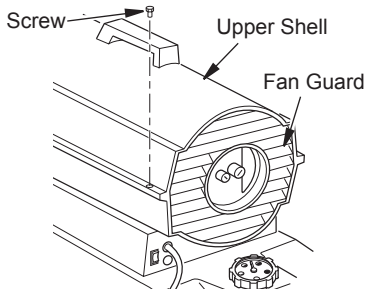

Figure 10 - Upper Shell Removal, 40/50/55/60/70 Models Only
1. Remove screws along each side of heater using 5/16" nut-driver. These screws attach upper and lower shells together. See Figure 10 or 11.
1. Remove upper shell (see Figure 10 or 11).